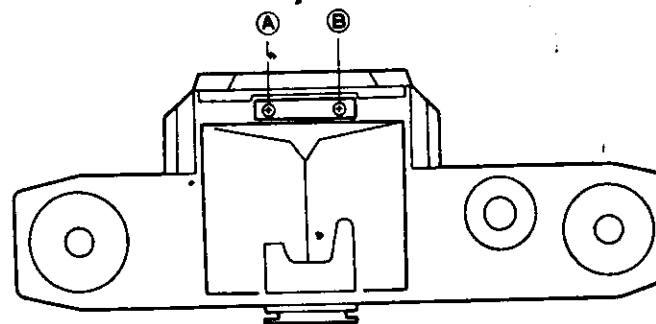

Fig. 56
5. F stop (see Fig. 56)
- 3) Look through the finder and turn F stop indication adjusting SCREWS in Fig. 56 so that the F stop (5.6) appearing in the F stop indication window of Fig. 56 comes to the center.